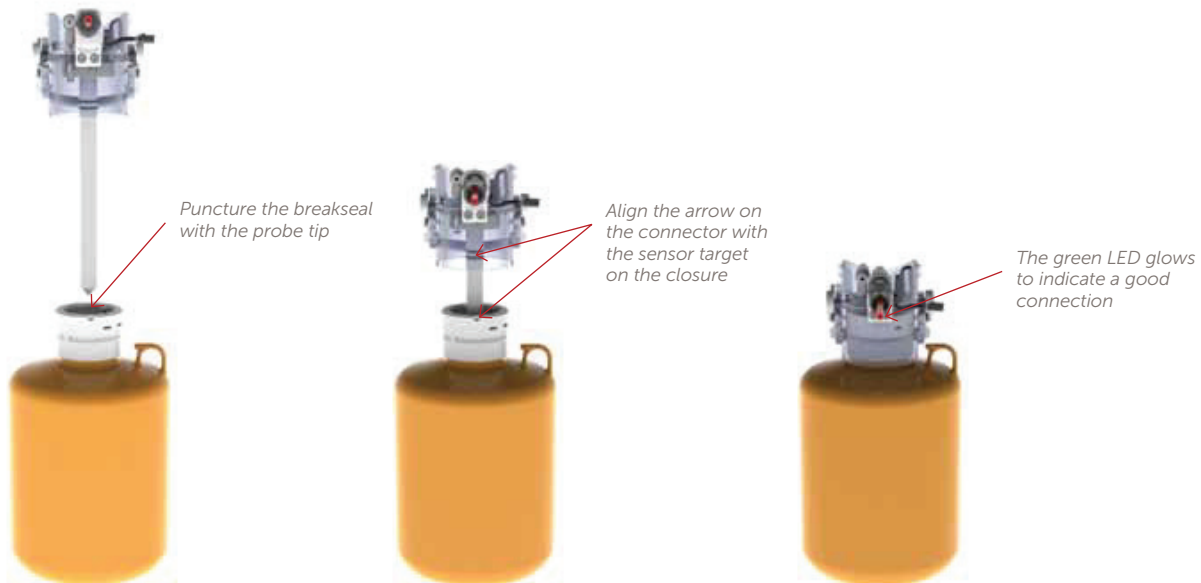

Figure 30. Installing the ErgoNOW connector onto a bottle.
4. Install the ErgoNOW connector onto the bottle (see Figure 30):